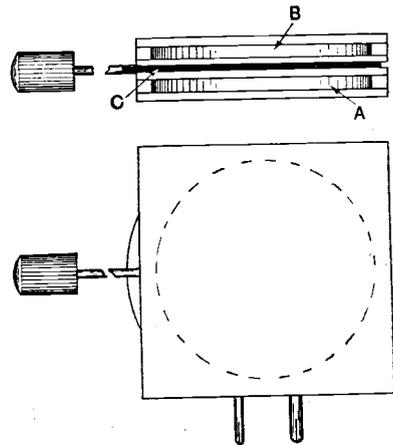

Fig. 17. This is a variometer which has two windings A and B. The metal plate C is arranged so that it may be moved in between the two coils.
(J) If two coils are mounted close together, the mutual inductance may be varied by using a metal plate. A simple arrangement is shown in Fig. 17. The coils are A and B,